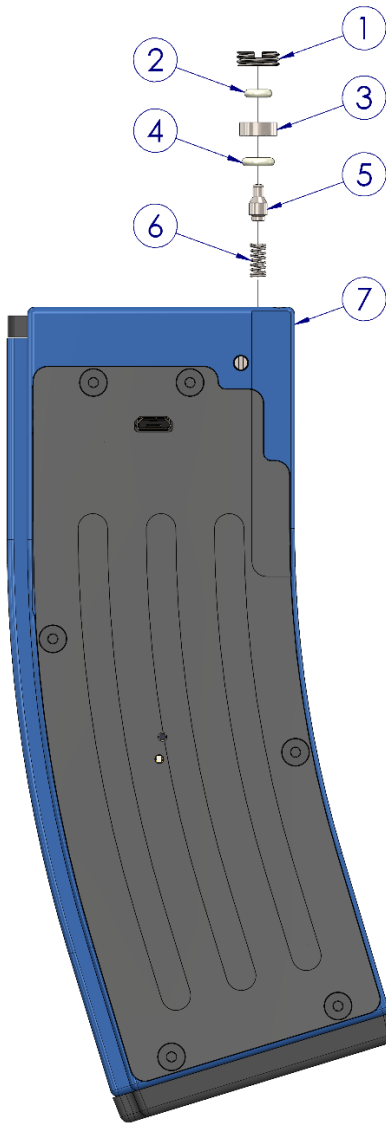
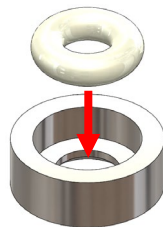

Figure 1, Double Seal Assembly
Figure 3, Fit O-ring into cup of Double Seal Spacer
- Remove the double seal cap (Figure 1, #1) using a thick blade screwdriver.
- Use a small pick or screwdriver to remove the 005 O-ring (Figure 1, #2) and double seal spacer (Figure 1, #3). Inspect the O-ring and replace if any damage/wear is present.
- Use a small pick or screwdriver to remove the 007 O-ring (Figure 1, #4). Inspect the O-ring and replace if any damage/wear is present.
- Invert the magazine and allow the double seal valve (Figure 1, #5) and compression spring (Figure 1, #6) to drop free. Inspect the spring and replace if any damage/wear is present.
- Place compression spring (Figure 1, #6) onto the double seal valve (Figure 1, #5) and install in the cylinder of the Magazine Body (Figure 1, #7).
- Apply a drop of approved lubricant to the 007 O-ring (Figure 1, #4) and place into the cylinder.
- Apply a drop of approved lubricant to the 005 O-ring (Figure 1, #2), fit into the cup of the double seal spacer (Figure 1, #3) as shown in Figure 3, then place into the magazine with O-ring facing up.